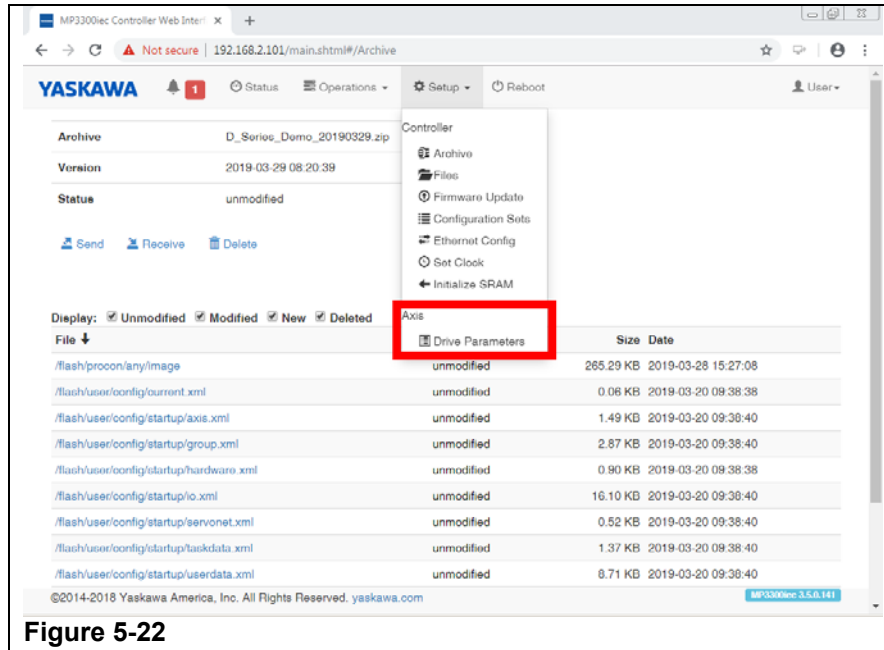

Figure 5-22
- i. From the 'Setup' pulldown menu of the Yaskawa website page, select the "Drive Parameters" option. (Refer to Figure 5-22)